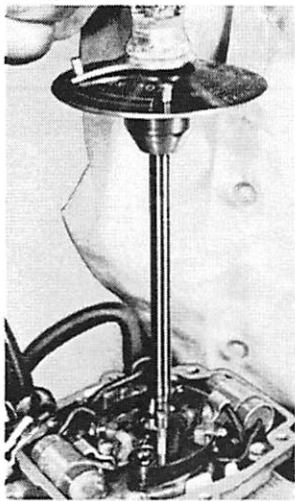

Figure 1.
2. Check spring tension setting with Spring Tension Gauge (C-91-29406). Place end of tool over breaker assembly and turn toward breaker point spring to 33-37 oz. tension. (Fig. 1)